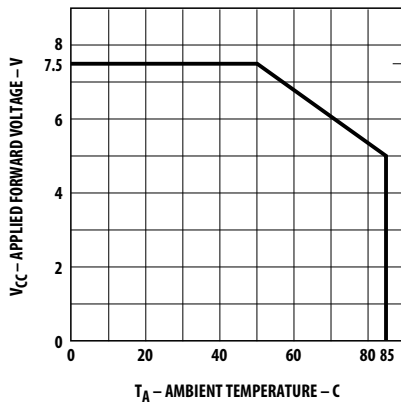

Figure 3. Maximum allowed applied forward voltage vs. ambient temperature $R\theta_{JA} = 175^{\circ}\text{C/W}$. 5 volt devices.
2. Derate from T_A = 50°C at 0.071 V/°C, see Figure 3.